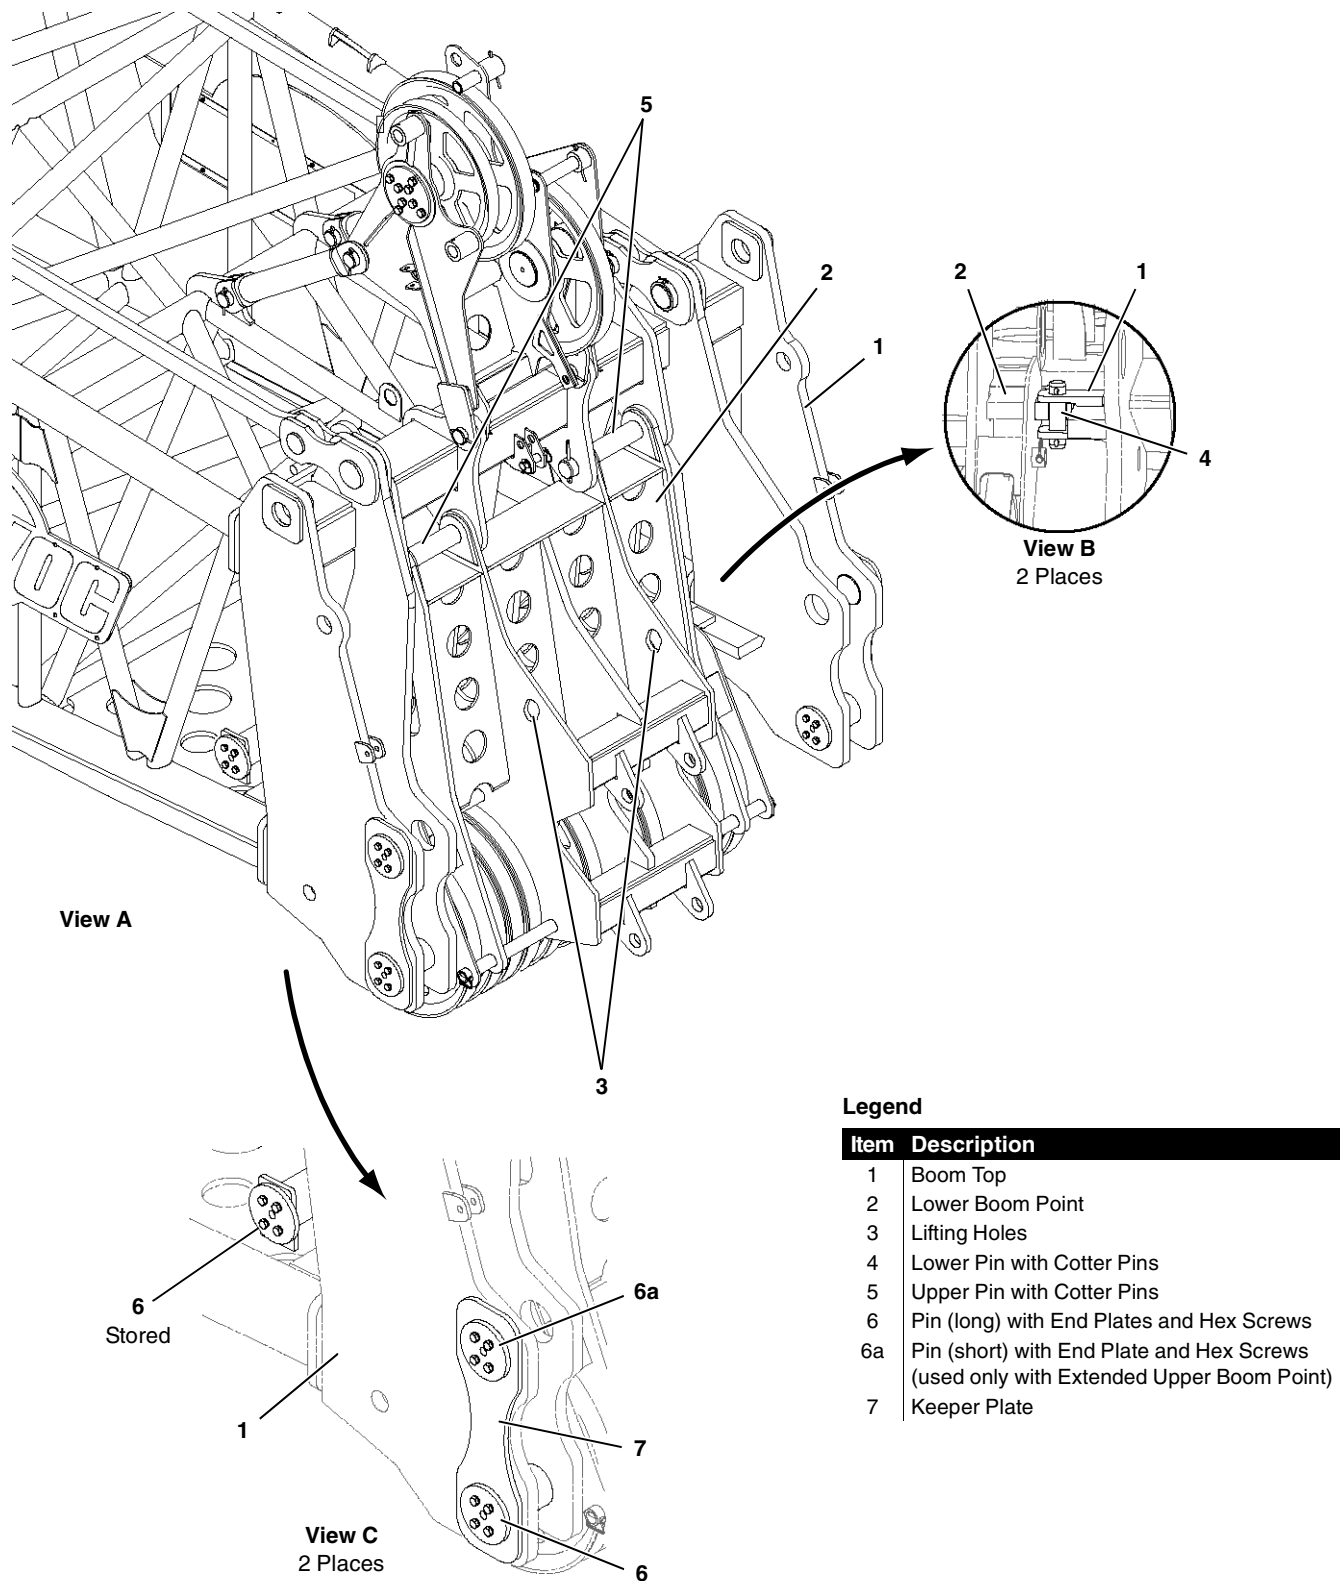

FIGURE 4-30
See Figure 4-30 for following procedure.
- a. Remove pins (8, View A) to disconnect links (9) from storage position and rotate links (9) to vertical.
- b. Attach equal length lifting slings from assist crane to four lifting lugs (10, View A) on extended upper boom point (11).
- c. Lift extended upper boom point (11) off trailer and into position at boom top (1, View C).
- d. Align connecting holes in links (9, View B) with boom top (1) and install pins (8).
- f. Install bottom pins (6, View D), keeper plates (7) and end plates.
- h. If equipped with long top pins (6) in upper holes, store them with end plates (Figure 4-30, View C).
- k. As boom is raised, extended upper boom point rollers (12) will roll along ground until links unfold. Upper point will then lift off ground as boom is raised.
- b. Remove setup pins (13, View C) from storage lugs (14).
- d. Rotate links (9a and 9b, View A) up until setup pin (13) can be installed in setup lug (16).
- e. Install setup pin (13).
- h. Attach equal length lifting slings from assist crane to four lifting lugs (10, View B) on extended upper boom point (11).
- i. Lift extended upper boom point (11) off trailer and into position at boom top (1, View E).
- j. If equipped with long top pins (6) in upper holes, store them with end plates (View C, Figure 4-30).
- k. Install bottom pins (6, View D), keeper plates (7), and end plates.
- n. Rotate extended upper boom point up with assist crane (View G) to align connecting holes in links (9a, View F) with boom top (1).
- o. Install pins (8).
- p. Remove setup pins (13, View A) from setup lugs (16) and install pins in storage lugs (14, View C).
- Do not perform step 4q until pins (13) are removed, or damage will result.**
- r. As boom is raised, extended upper boom point rollers (12) will roll along ground until links unfold. Upper point will then lift off ground as boom is raised.